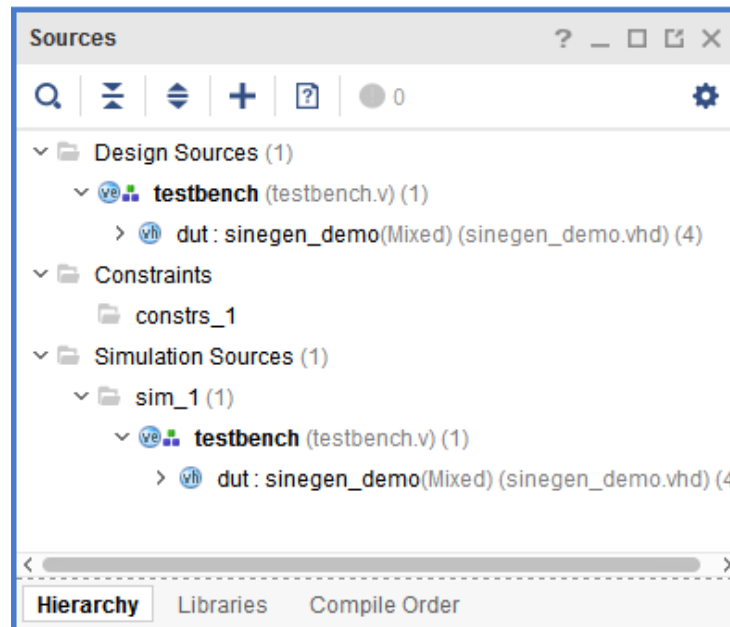

Figure 8: Sources window
1. Click the  icon in the Sources window to expand the folders as shown in Figure 8.